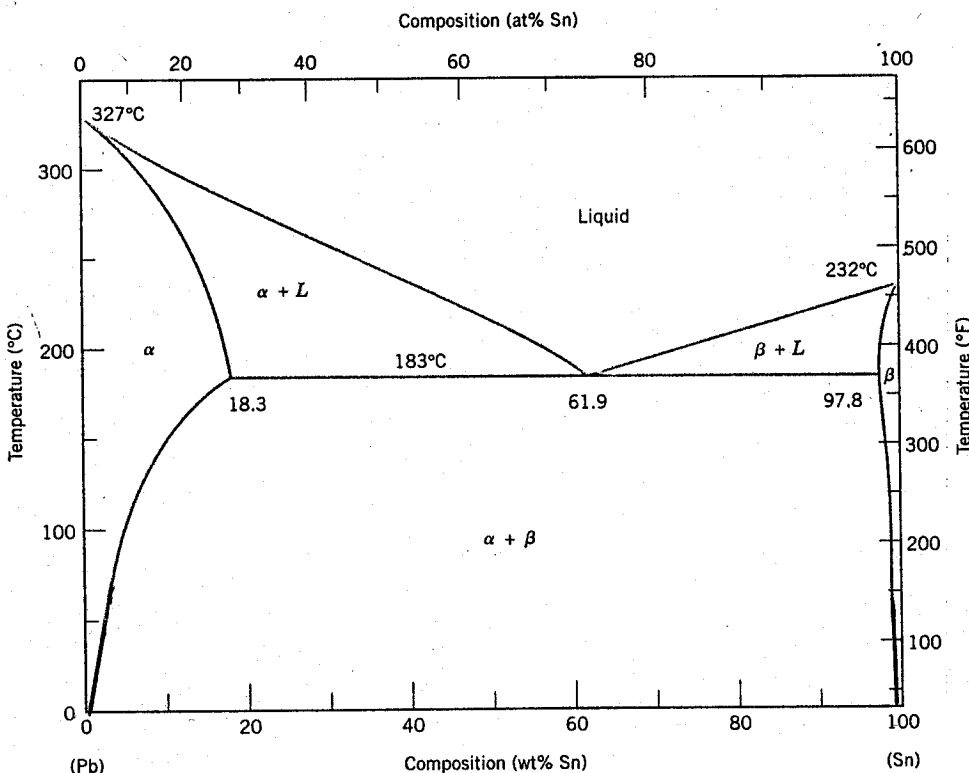

Figure 2
- (b) (i) Figure 2 shows a phase diagram for solder, the Pb-Sn system. Calculate the amount in kg and composition of each phase present in 1 kg of a 60 wt% Pb – 40 wt% Sn alloy at 300°C, 200°C and 100°C. (8)
- (ii) A solder batch is made by melting together 64g of a 40:60 Pb-Sn alloy with 53g of a 60:40 Pb-Sn alloy. Calculate the amount in kg of each phase present assuming it is slowly cooled to 25°C. (6)